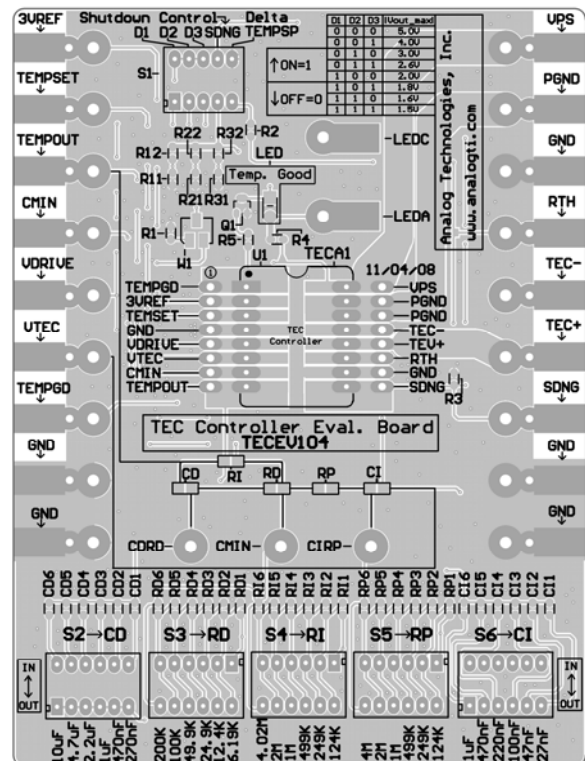
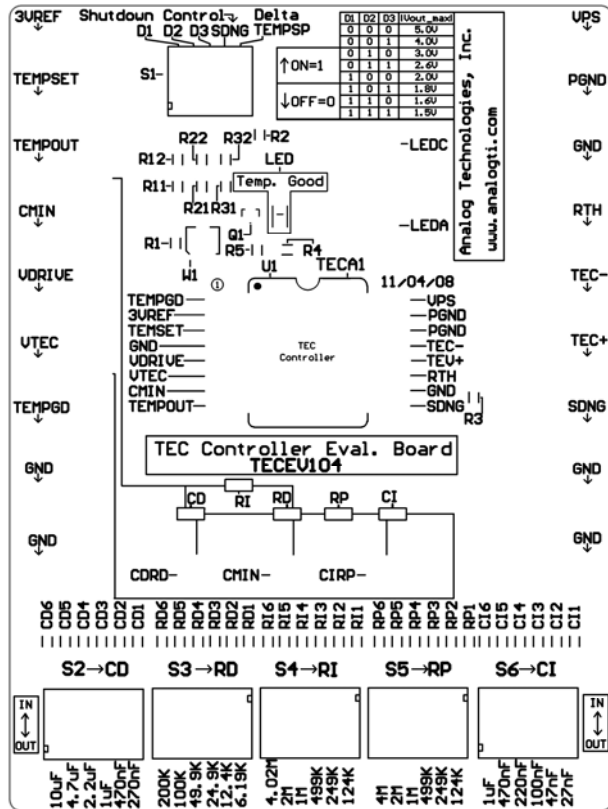

Figure 2. Top Silkscreen Layer with Other Top Layers
Figure 3. Top Silkscreen
The silkscreen layer of the evaluation board is shown in Figure 2 with other top layers, including top silkscreen, top copper, top solder mask, and multilayer (vias). Figure 3 only shows the image of top silkscreen layer. There is no component in the bottom side of the board, so that there is no bottom silkscreen layer image.
- 4. After tuning, the values of the capacitors for C_D and C_1 can be read off the capacitor selection switches. The values of the resistors, R_I , R_d and R_P , can be measured by an Ohm-meter by connecting to the resistor pins. As seen in the photo of Figure 3, R_I can be read off between TEMPOUT